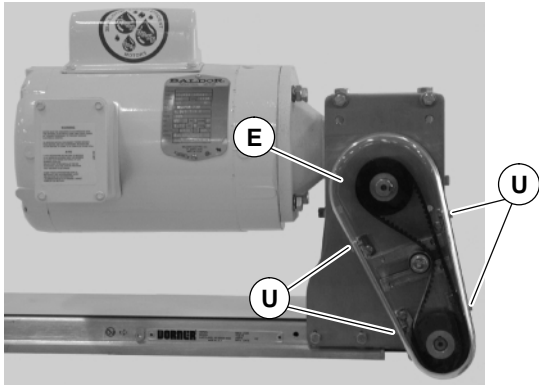

Figure 21
1. Remove four (4) screws (U of Figure 21) and remove cover (E).
4. Attach cover (E of Figure 21) with four (4) screws (U). Tighten to 35 in-lb (4 Nm).